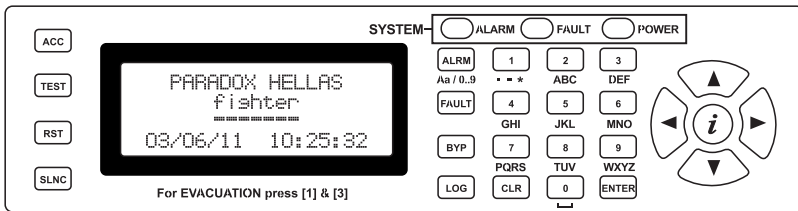

Figure 1. Fighter keypad
Each keypad (Figure 1) has several buttons with some having different functions depending on the system's state. The following table summarizes each key's functionality. The following table summarizes each key's functionality:
- **T9 entry mode:** Each key has a set of characters (4 or 5) that are selected by promptly pressing the same key as many times needed. The characters allocated to each key are printed above them on the keypad mask (Figure 1). This mode is very popular with cellular phones and used for SMS text messaging.